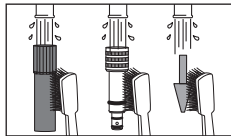

Fig. 28
- ① Clean the entire outer surface of the handpiece with a soft-bristled toothbrush for at least 15 seconds. (Fig. 28). For spray nozzles, clean the knurled part and the O-ring thoroughly. And for Tip Nozzles, clean the triangular part thoroughly.